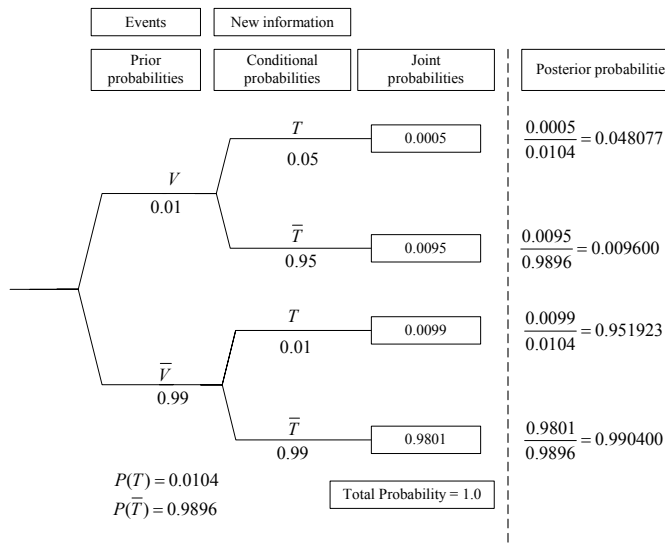

Figure 17. Probability-Tree Representation of a Diagnostic Analysis Problem
- The probability tree for these two cases is shown in Figure 17.